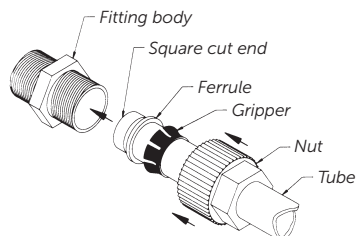

Figure 1.
2. Insert the square cut end of the tube through the hex side of the nut (see Figure 1).